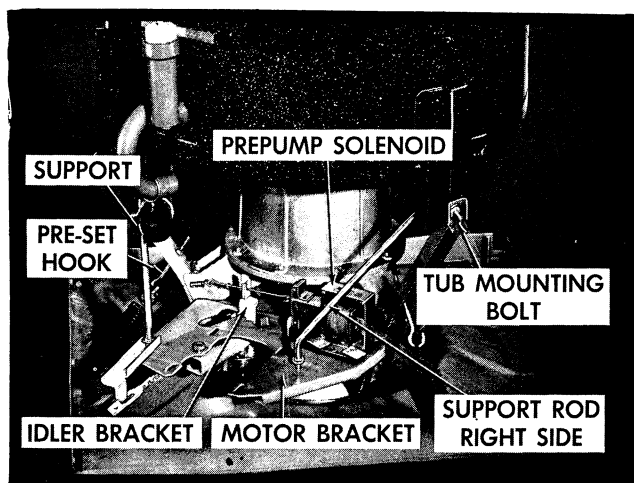

Figure 81
- k. Remove four bolts and two motor bracket support rods from outer tub mounting brackets, Figure 81.